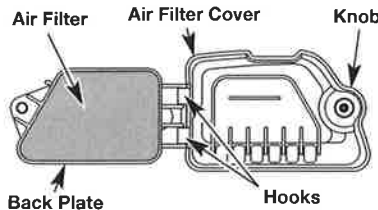

Fig. 23
1. Open the air filter cover. Unscrew the knob on the left side of the cover. Swing the cover out (Fig. 23).
2. Remove the air filter (Fig. 23).
6. Replace the filter (Fig. 23).
7. Make sure the back plate is correctly positioned (Fig. 23).
8. Swing the air filter cover closed and tighten the knob (Fig. 23).